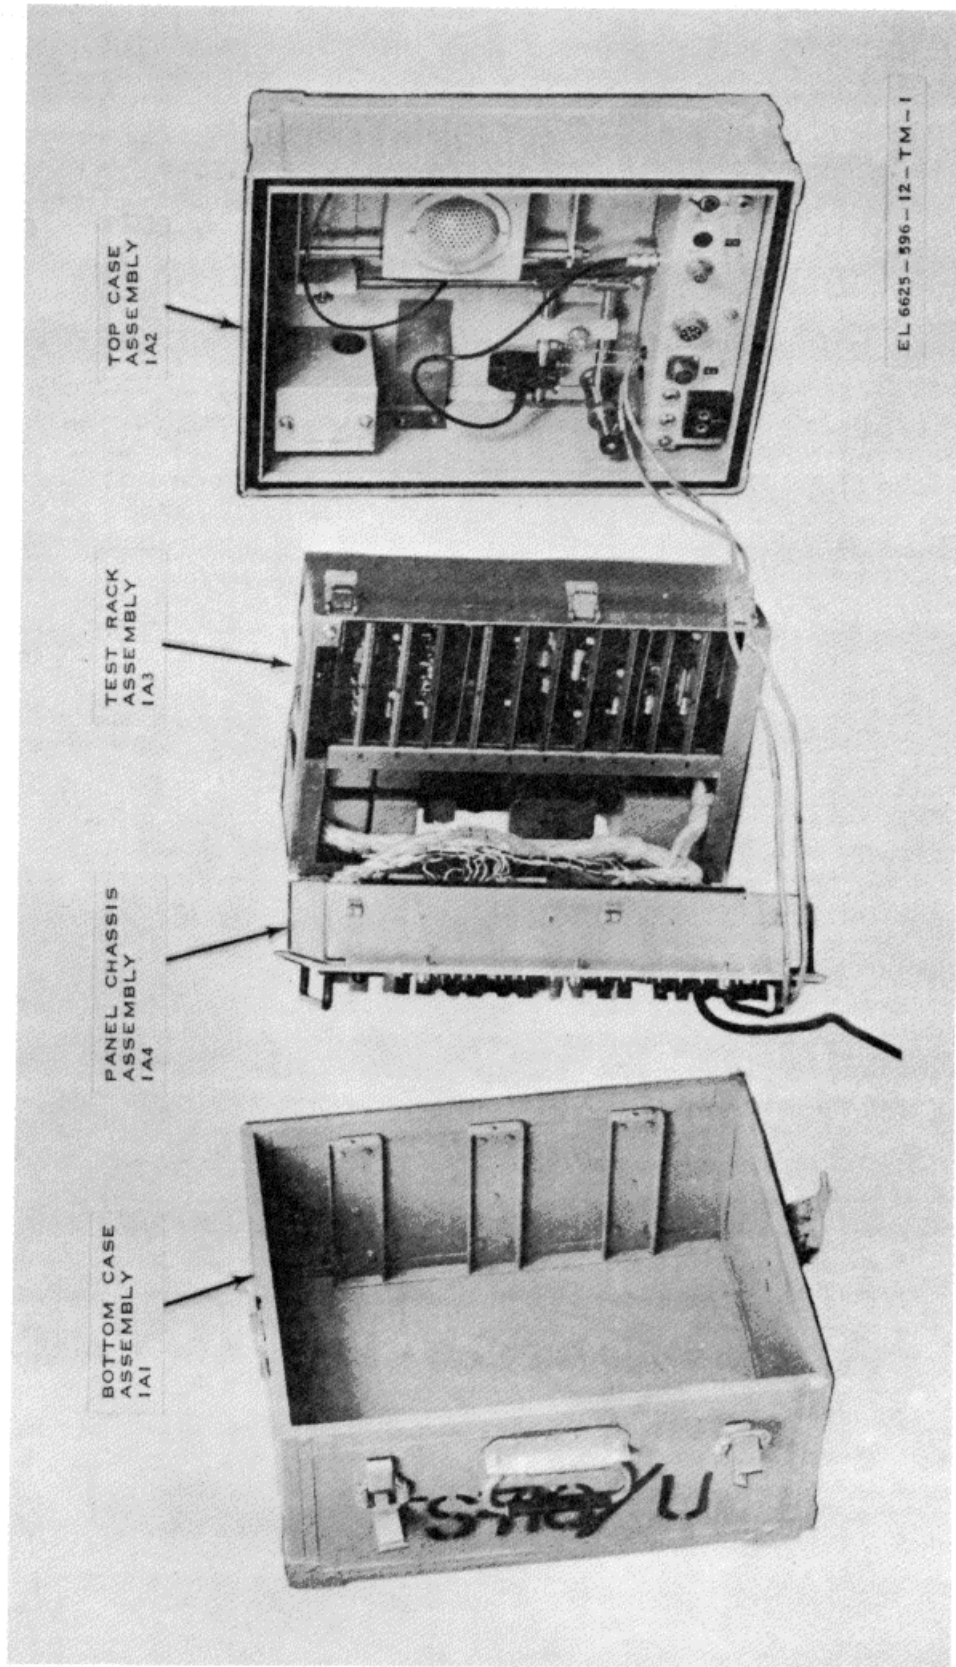

Figure 1-1. Telephone Test Set TS-716/U.
a. This manual describes Telephone Test Set TS-716/U (fig. 1-1), hereafter referred to as the TS-716/U, and provides instructions for installation, operation, and operator and organizational maintenance. It includes instructions for operation under usual and unusual conditions, cleaning and inspection of the equipment, and replacement of parts available to the operator and organizational repairman.
(fig. 1-1)
- a. Bottom Case Assembly 1A1 (fig 1-1). Assembly 1A1 (the bottom of the carrying case) is a plastic protective container for assemblies 1A3 (c below) and 1A4 (d below).